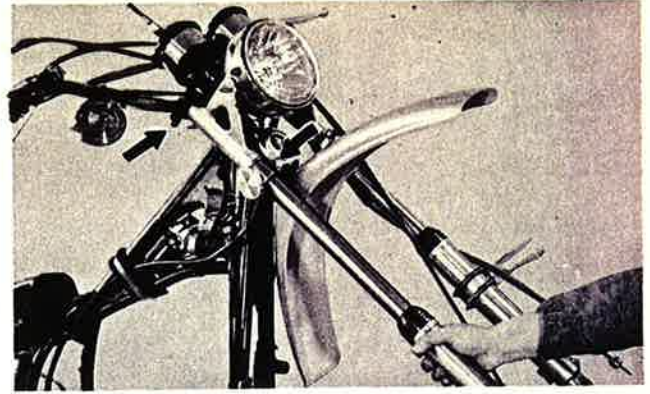

Fig. 5-6-1
1. With the front wheel, speedometer cable and front brake cable removed, the fork legs can be removed from the upper and lower brackets by loosening upper and lower pinch bolts. (Fig. 5-6-1)